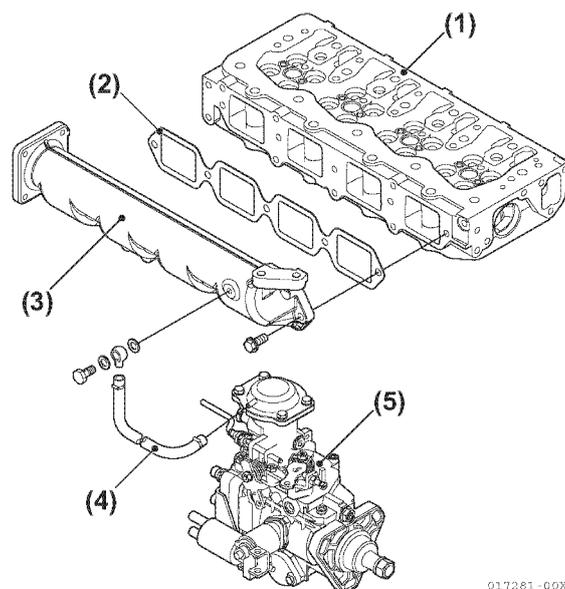

Figure 5-167
41. Thoroughly clean the inside of the intake manifold. Install the gasket and intake manifold (Figure 5-167).